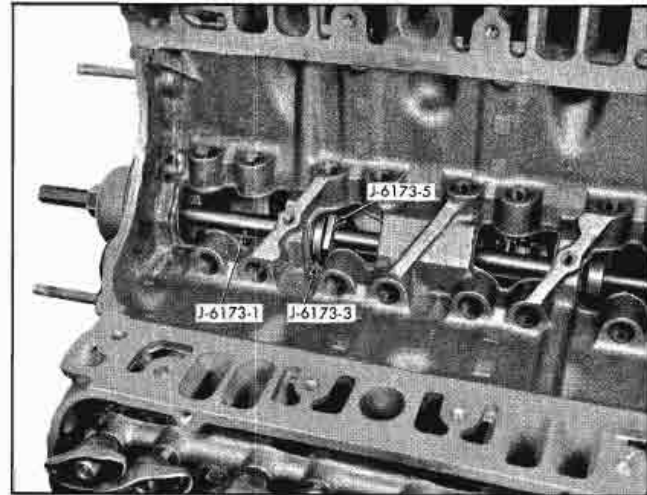

Fig. 6-56 Preparing to Remove Camshaft Bearing
5. Slip key J-6173-5 into notches in shaft behind bearing to be removed (Fig. 6-56).